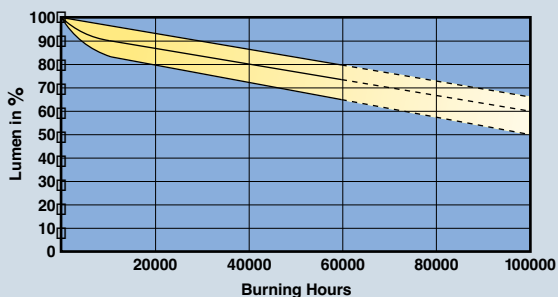

Figure 2: Lumen depreciation of Induction Lamp system; % of initial light output vs. burning hours.
- **Excellent lumen maintenance;** over 70% of initial light output is maintained after 60,000 hours. See figure 2.